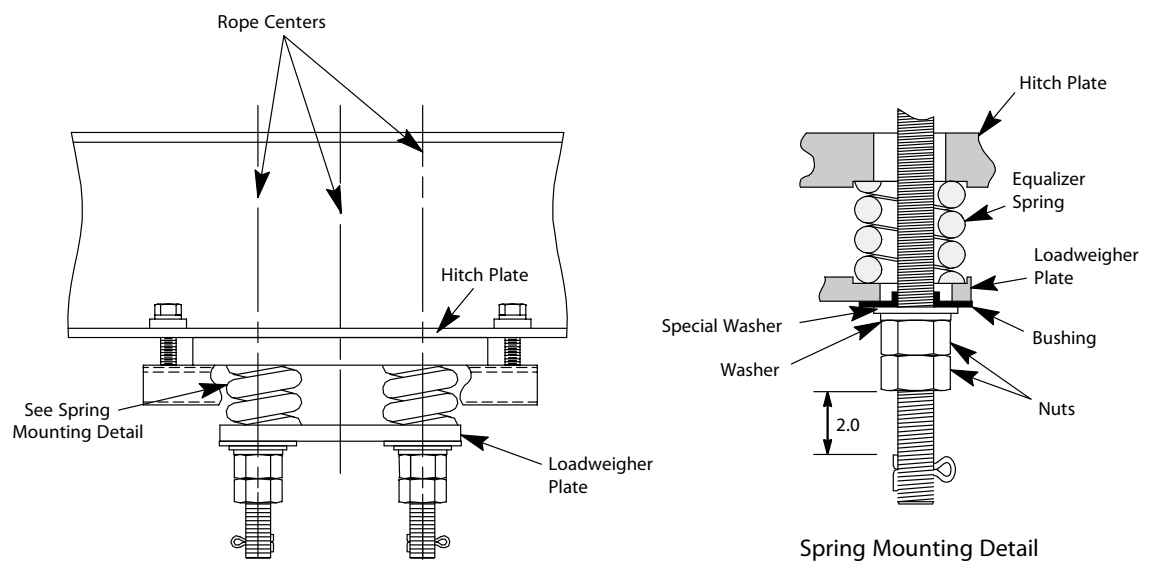

Figure 23 - Car Rope Shackle Installation
5. Install the shackles at the car. See Figure 23.